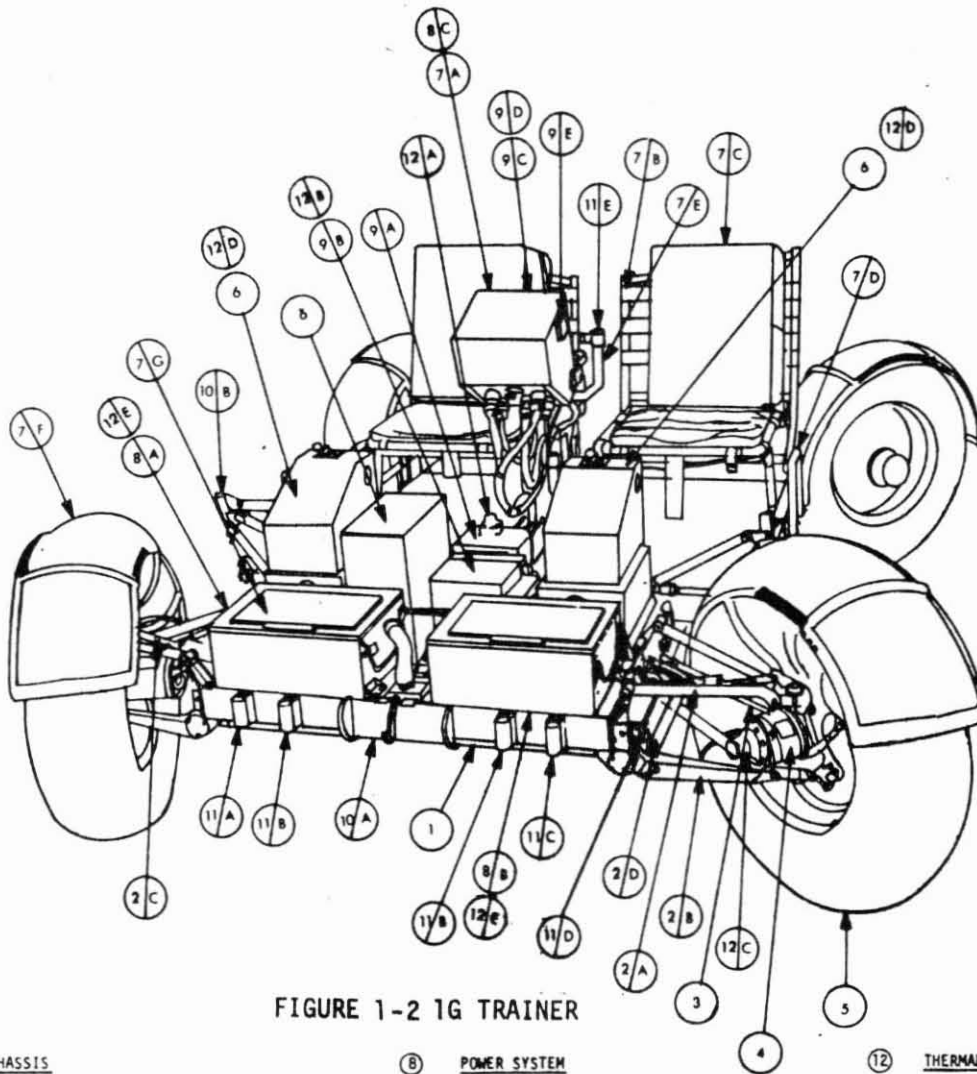

FIGURE 1-2 1G TRAINER
1. 1G Trainer vehicle systems are shown on figure 1-2.